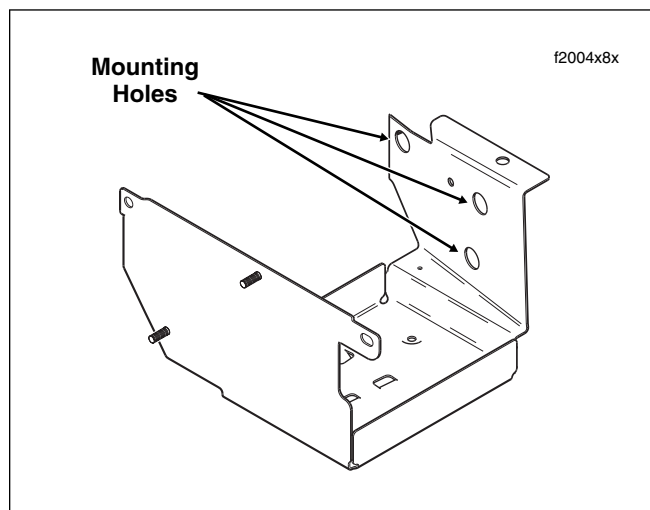

Figure 8-137. Battery Box (Right Side View)
1. Install grommets into holes on left side of battery box with the larger OD on the outboard side. See Figure 8-137.